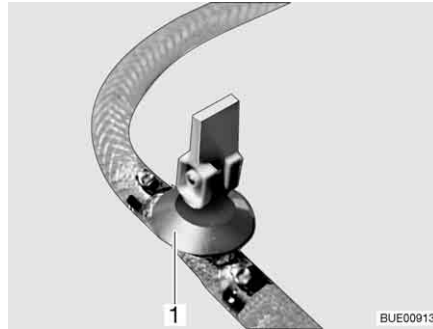
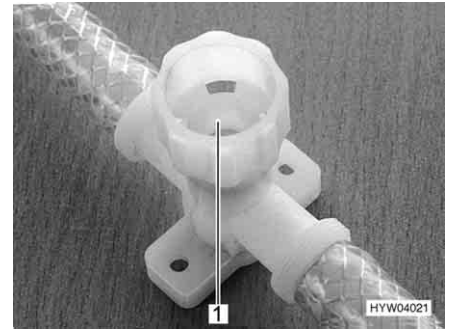

Fig. 235 Drain cock (with rocking lever)
Fig. 236 Drain cock (with twist cap)
- Close all drain cocks. To do this, position the drain cock's rocking lever (Fig. 235, 1) horizontally or turn the drain cock's cap (Fig. 236, 1) in a clockwise direction.